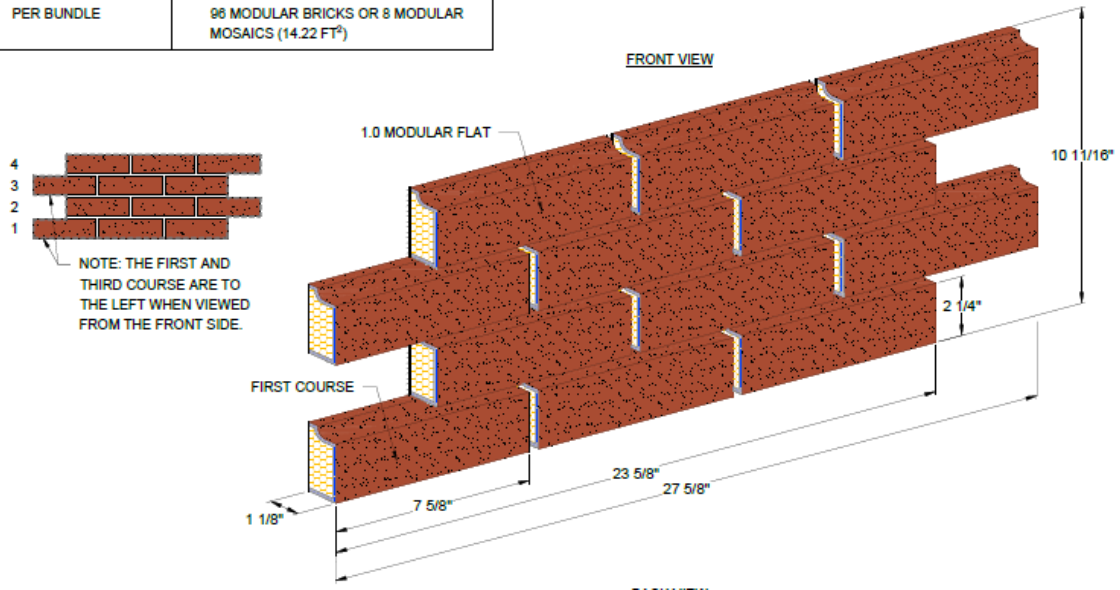

Figure 5: NewBrick Mosaic 12 Brick Panel
- 1. 12 brick panel (see Figure 5).